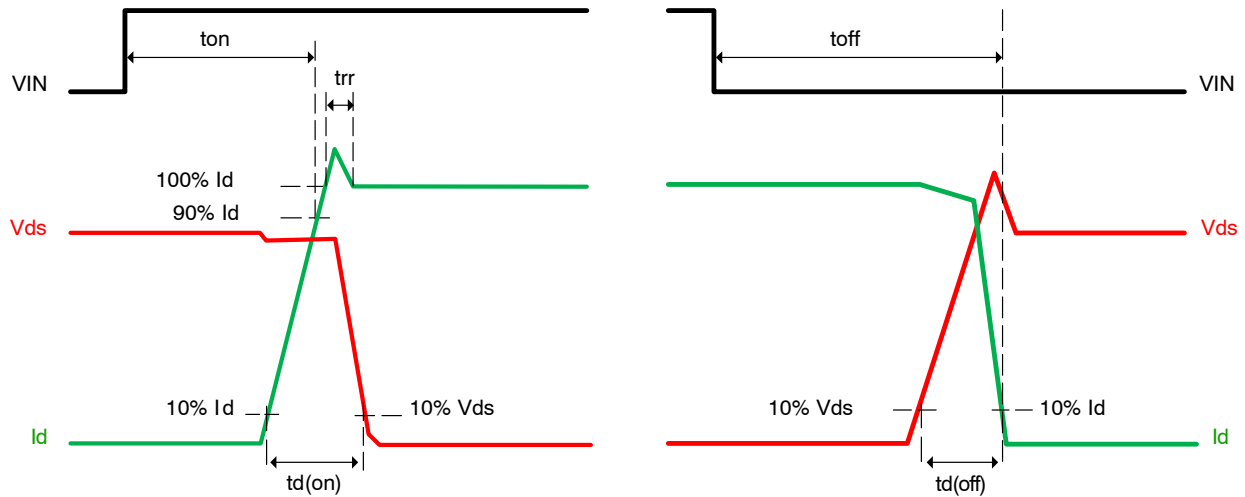

Figure 4. Switching Time Definitions
- ton and toff include the propagation delay of the internal drive IC. tc(on) and tc(off) are the switching times of MOSFET under the given gate-driving condition internally. For the detailed information, please see Figure 4.